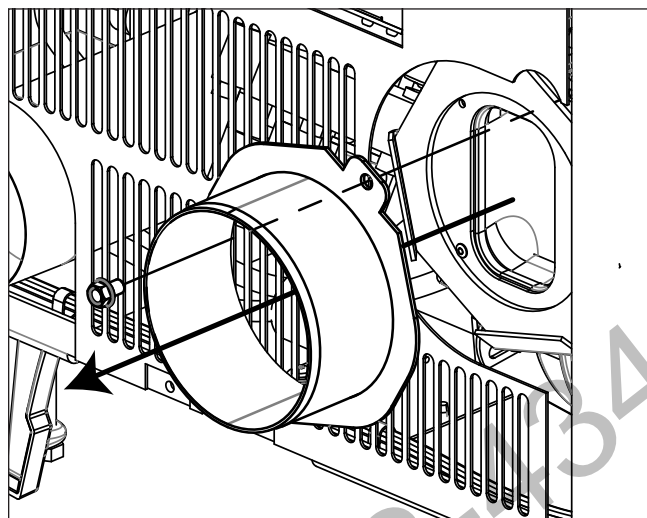

Figure 5: Exhaust Starter Removal
1. Remove the bolt securing the exhaust starter to the unit found at the rear of the unit (see Figure 5). Ensure the gasket stays in place and is not removed. If the gasket is damaged, a replacement is included with the Top Vent Adapter.